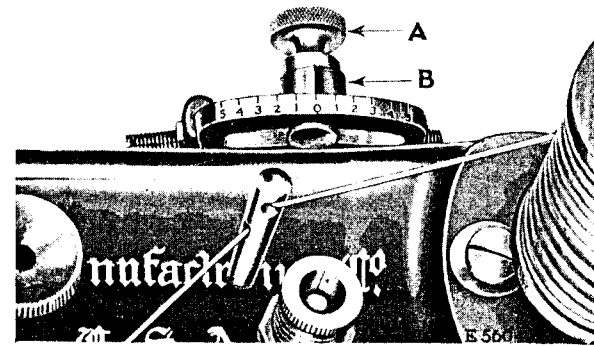

Fig. 20. Adjustment for Regulating the Width of Sideway Stitch on Machine 107w51
The width of the sideway stitch is regulated by the lever (B, Fig. 20) at the back of the machine. When this lever is set
in line with zero on the slotted position bracket, the machine will make straightaway stitches only. To make the sideway stitches to the left of centre line, loosen the thumb nut (A, Fig. 20) and move the lever (B) to the left until the desired width of stitch is made. To make the sideway stitches to the right of centre line, move the lever (B) to the right until the desired width of stitch is made. After making this adjustment, securely tighten the thumb nut (A).